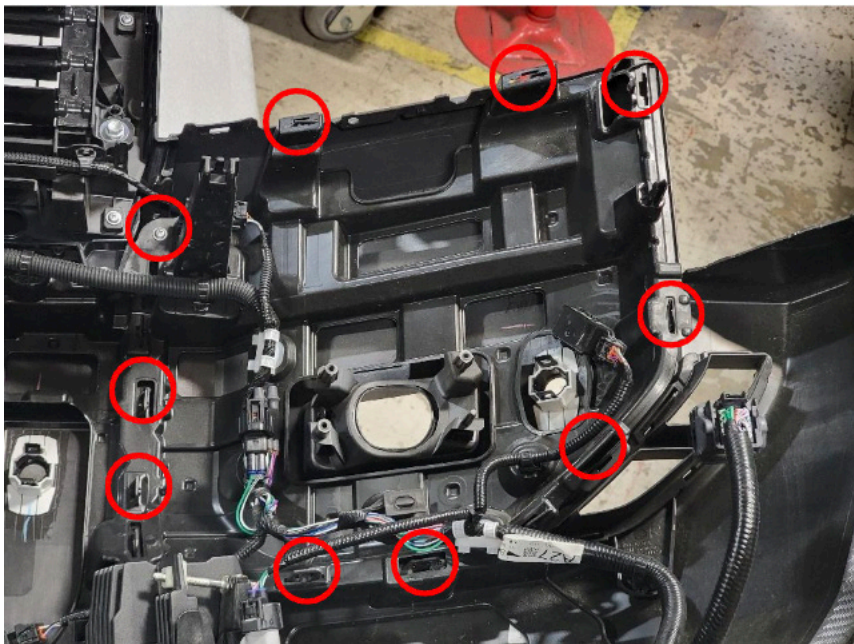

Figure 22.
18. Using a Phillips head screwdriver and panel pry tool, remove the one (1) screw and nine (9) black tabs attaching the bumper fog light valance to the bumper shell. Figure 22.